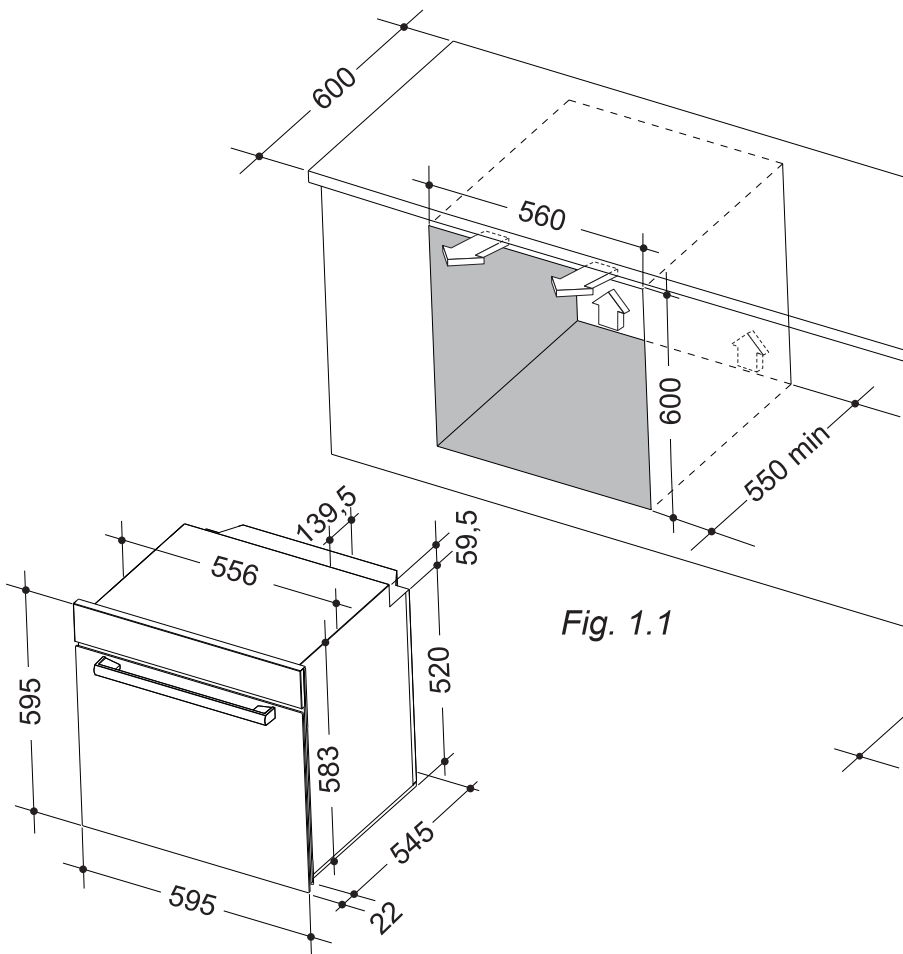

Fig. 1.1
- Installation requires a compartment as illustrated in figures 1.1 and 1.2. On the lower side, the oven must lay on supports standing the oven weight.
It is essential that when installing your oven adequate air circulation is allowed for within the installation. See figures 1.1, 1.2, 1.3 and 1.4.